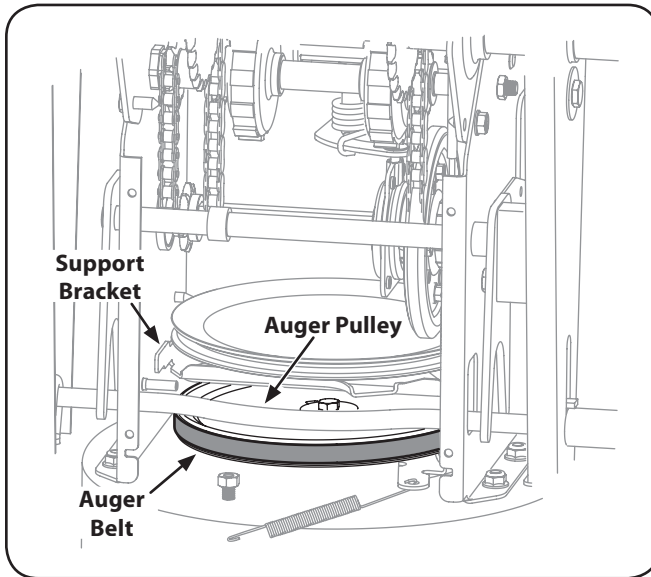

Figure 7-5
7. Lift the auger belt from the auger pulley, and slip belt between the support bracket and the auger pulley. See Figure 7-5.